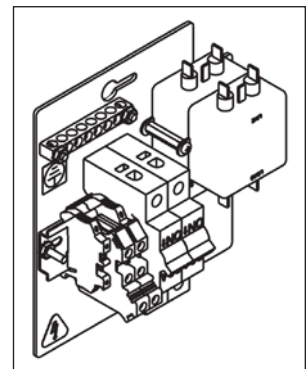

Figure 14: Term Panel
1. Locate the term panel. Refer to **Figure 14**.